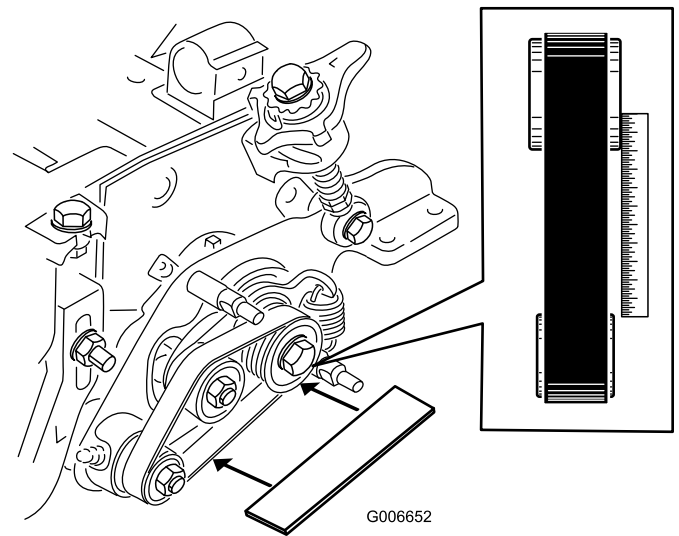

Figure 14
- Lay a straightedge along the outer face of the **drive** pulley (Figure 14).